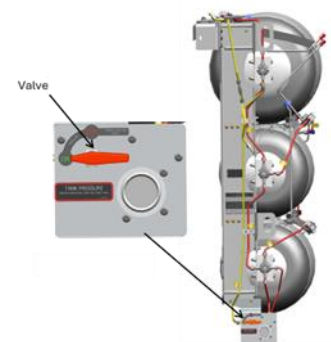

figure 5
To access the cylinder shutoff valve(s), open the access cover by loosening the Butterfly Bolt(s) or remove the Lynch Pin(s) and remove access cover figure 5 and 6.
- Turn the valve clockwise 1/4 turn to the OFF-position figure 5.